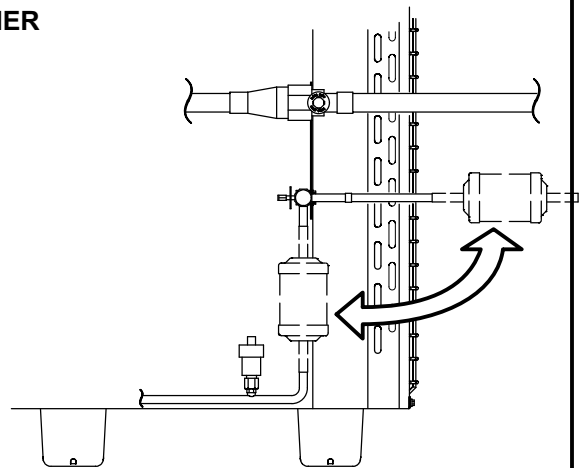

FIGURE 7
- 9- If pressure drop is greater than 4 psig replace filter drier. See figure 7.